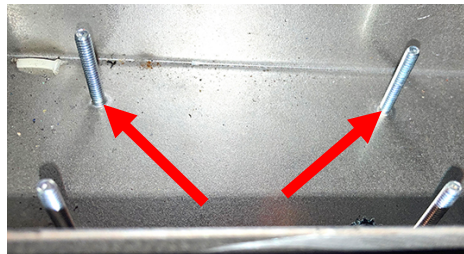

Figure 15
17. Using a nut driver or other tool, break off two (2) studs closest to the rear of the control box (see Figures 15, 16 and 17).